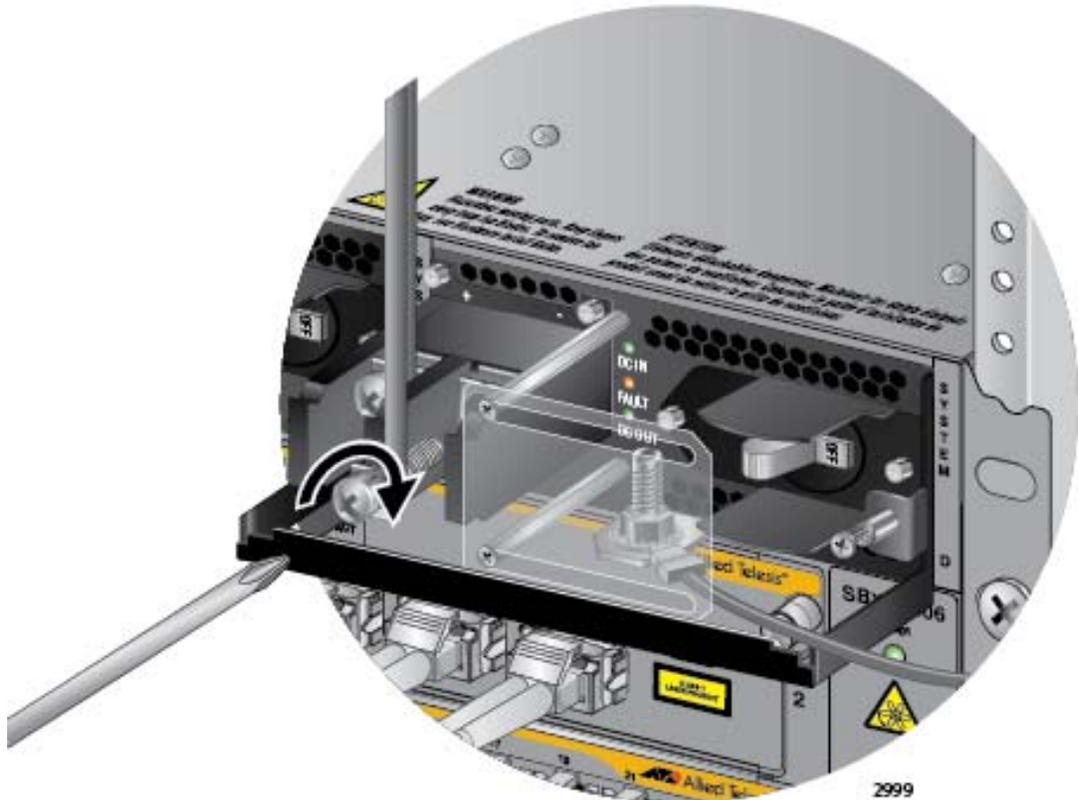

Figure 131. Connecting the Negative Lead Wire
5. Wrap the negative lead wire clockwise around the remaining terminal screw and secure the screw and wire to the negative terminal connection on the terminal block with a #3 Phillips-head screwdriver, as shown in Figure 131 on page 175. The negative terminal is on the right.